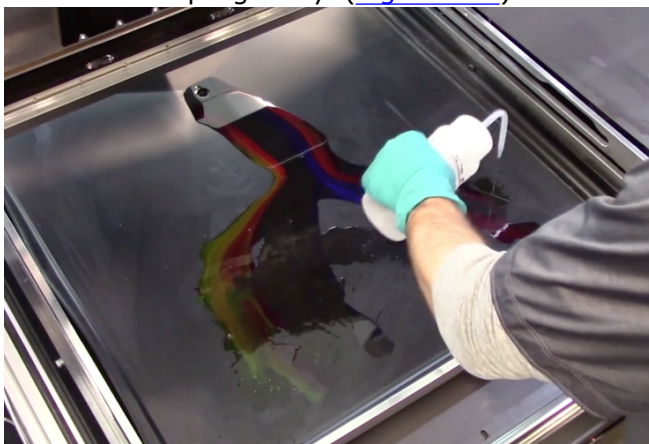

Figure 4-4 Pour Maintenance Fluid
3. Pour 1-2 ounces of UV maintenance fluid into the purge tray. (Figure 4-4)